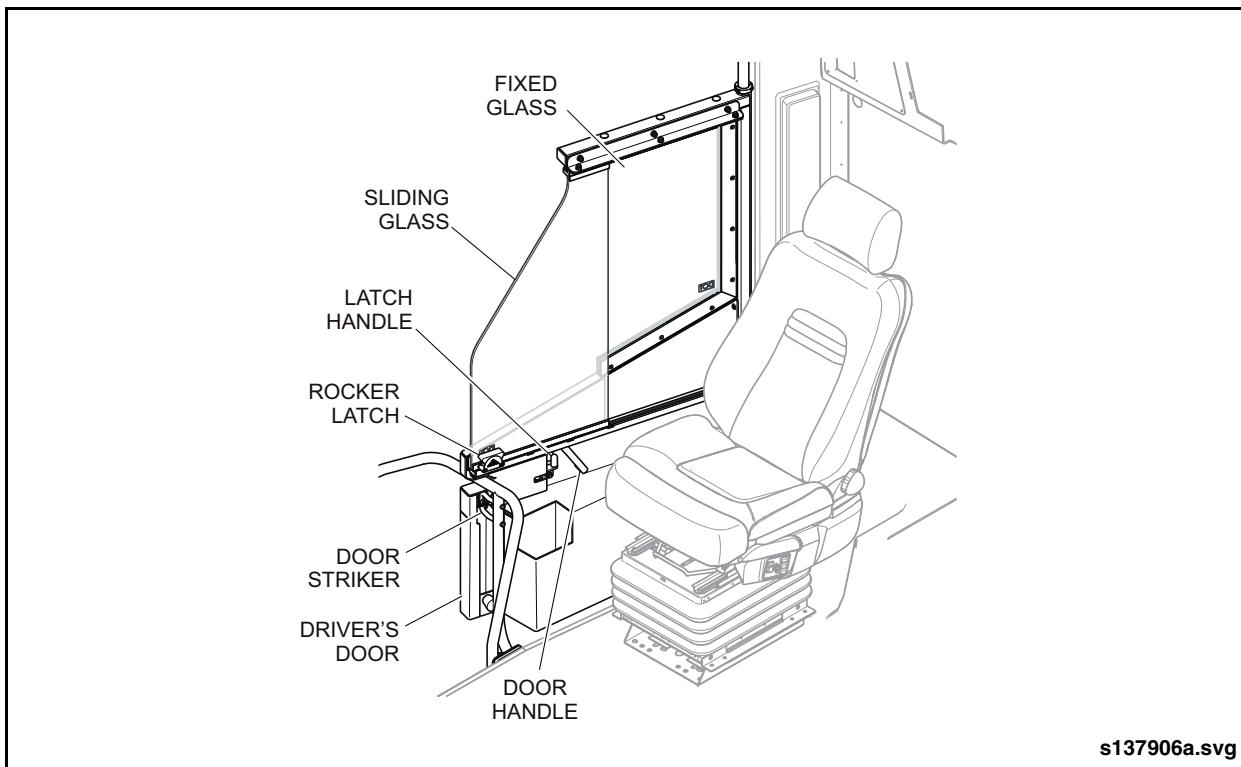

Fig. 17-17: Driver's Door Operation
1. To open door, push the latch handle towards the door and push the door open. See "Fig. 17-17: Driver's Door Operation" on page 20.